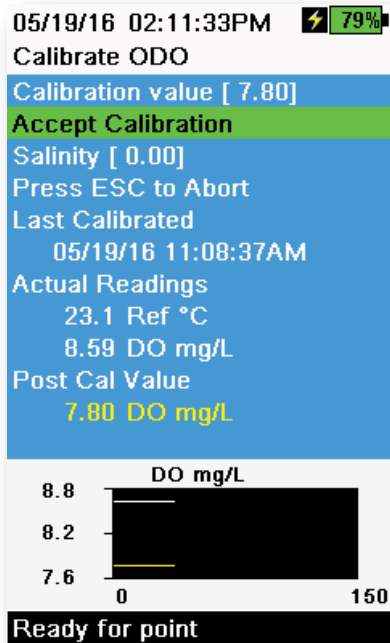

Figure 52 Calibrate ODO mg/L
5. Observe the actual measurement readings for stability (white line on graph shows no significant change for 40 seconds), then select **Accept Calibration** (Figure 52). "Calibration successful!" will be displayed in the message area.